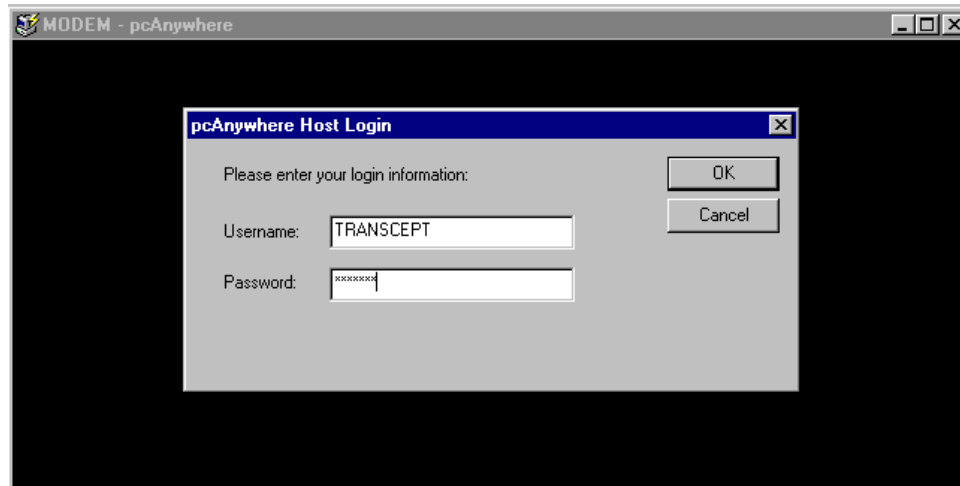

Figure 5-12. Remote Login GUI
- c. pcAnywhere will access the modem and dial the SEM's phone number. A Connecting GUI will appear during the dialing and connecting process. If the SEM workstation has been set up to receive phone calls, it will answer the call. The remote workstation will acknowledge connection by displaying the Login GUI shown in Figure 5-12. Enter the login name and password created back in the Security section. In this example we are using a login name of TRANSCEPT and a password of SEMUSER. The login and password are not case sensitive. The password will be blanked by asterisks. Click on the OK button.